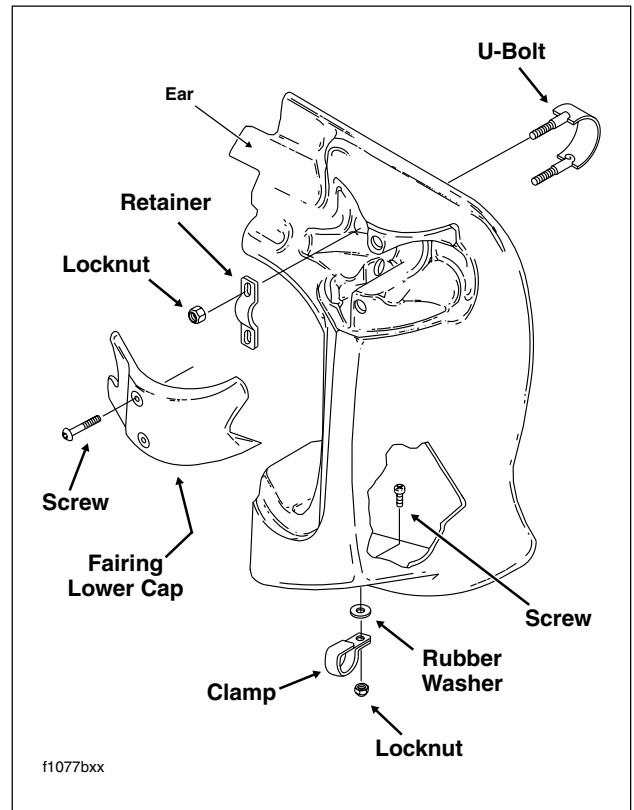

Figure 2-148. Fairing Lower (Right Side) - FLHTCU
1. Remove two screws from fairing lower cap. See Figure 2-148.